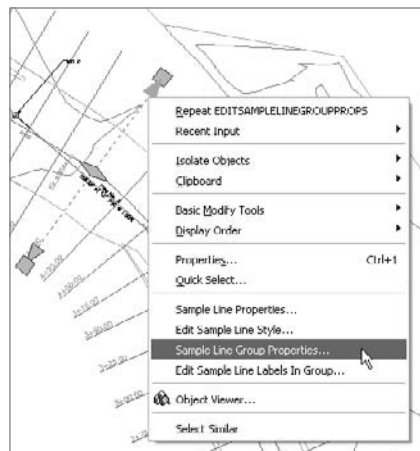

Figure A.88
3. Select any sample line, right-click, and choose `Sample Line Group Properties`, as shown in Figure A.88. The `Sample Line Group Properties` dialog will appear.